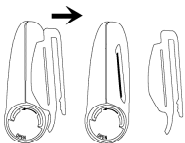

Fig. 1
- Please make sure that the belt clip is removed. To remove the belt clip, grasp clip and gently pop off. (Fig. 1) To replace clip line up tab on clip with slot on sensor and gently pop clip on to unit.